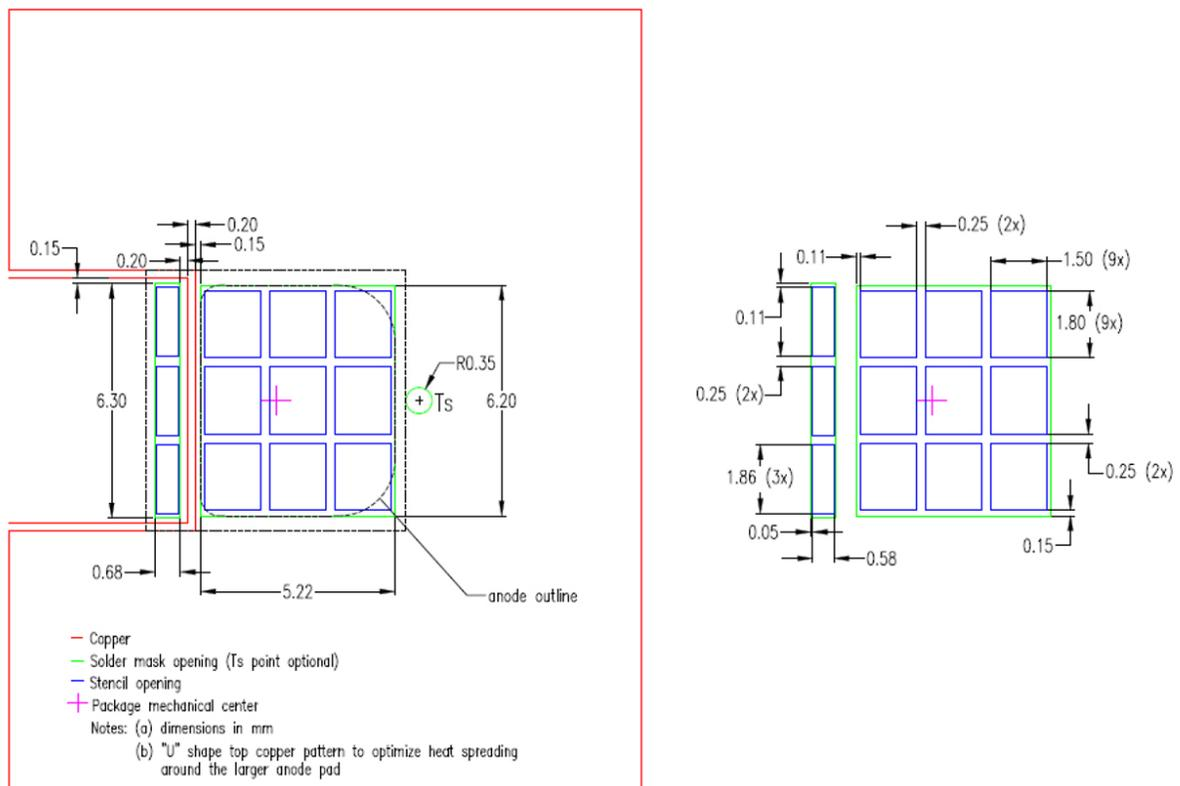

Figure 3a. Recommended PCB footprint showing solder mask and stencil opening for LUXEON 7070. Dimensions are in mm
The recommended PCB footprint design for the LUXEON emitter is shown in Figures 3a and 3b. In order to ensure proper heat dissipation from the emitter to Al-MCPCB for example, it is best to extend the top copper layer of the thermal pad of the PCB beyond the perimeter of the LUXEON emitter outline by 7mm or more. For optimum heat conduction, the top copper layer has "U" shape around the large anode pad which also functions as a thermal pad.
The recommended location of the sensor pad is shown in Figure 3a and Figure 5. To ensure accurate readings, the thermocouple (TC) tip must make contact to the top copper of the PCB onto which the LUXEON 7070 anode (thermal) pad is soldered, i.e. any solder mask or other masking layer must first be removed before mounting the TC onto the PCB. The tip of the TC wire should be placed as close as possible to the LUXEON emitter package.